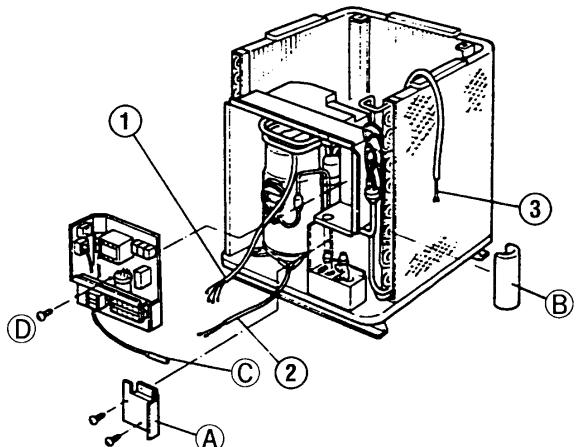

Fig. 19
- ① Compressor wire
- ② Crankcase heater wire
- ③ Four-way reversing valve wire
- ① Remove the cover plate **A**.
- ② Remove insulation **B**. Loosen and remove the sensor **C**.
- 3) The electrical component box can now be removed by unscrewing one screw **D**. Fig. 19